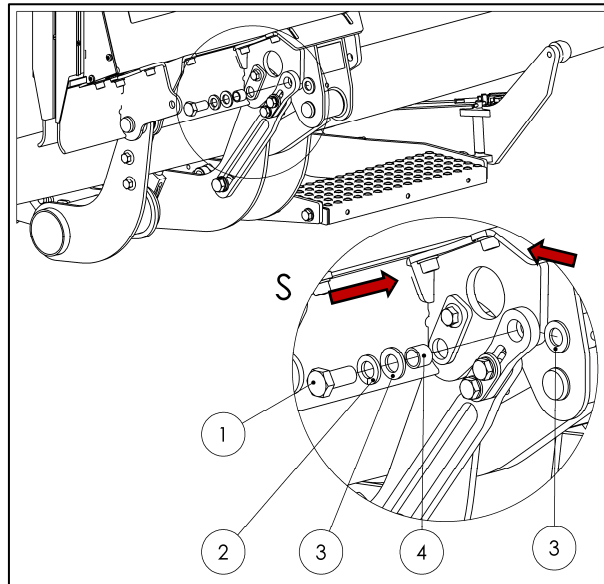

Fig. 58
- Mount the screw (1) for the platform lock, including the spring washer (2), washers (3), and sleeve (4), on the platform bearing (see Fig. 58).